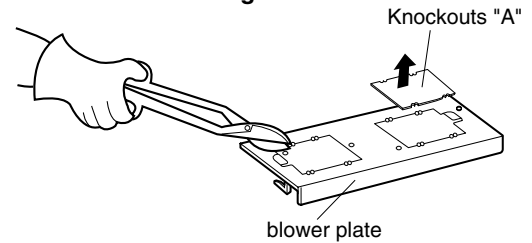

Figure 21
5. Use side cutter or tin snips to cut and remove knockouts "A" from blower plate. Discard knockouts. Be careful not to distort the plate. See Figure 21.